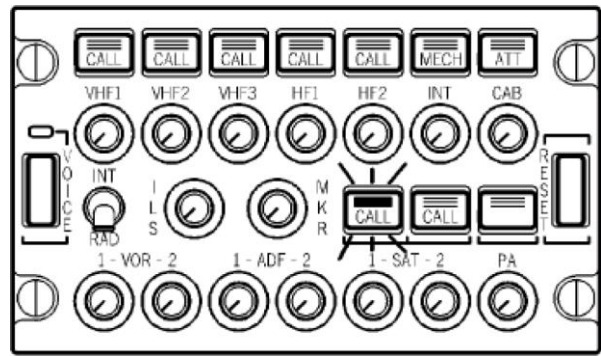

Figure 7-11: ACP - Call terminating - Flashing green
- The ACP SAT call button flashes green while the call termination is in progress (Figure 7-11).